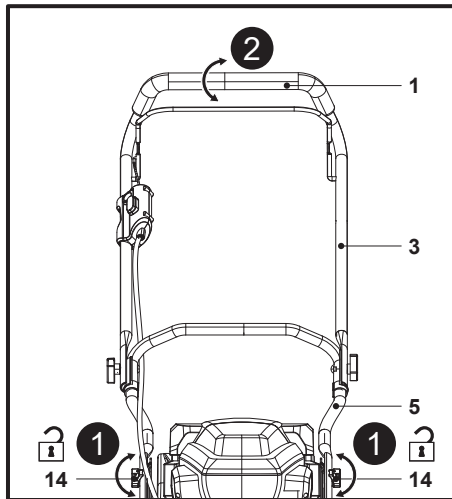

Fig. 10
1. Hold the grip handle (1) on the handle assembly (5, 3) with one hand.
2. Rotate the two locking buttons (14) 90° clockwise or counterclockwise to disengage, then swing the handle assembly (5, 3) away from its position (Fig. 10, steps 1, 2).
3. Align one of the other two mounting holes of the handle brackets (13) with the lower handle bar (5) and turn the locking button (14) 90° back.
4. Swing the handle assembly (5, 3) until the auto-tension pin (14a) passes through the mounting hole of the handle bracket (13). The handle assembly (5, 3) is now secured.